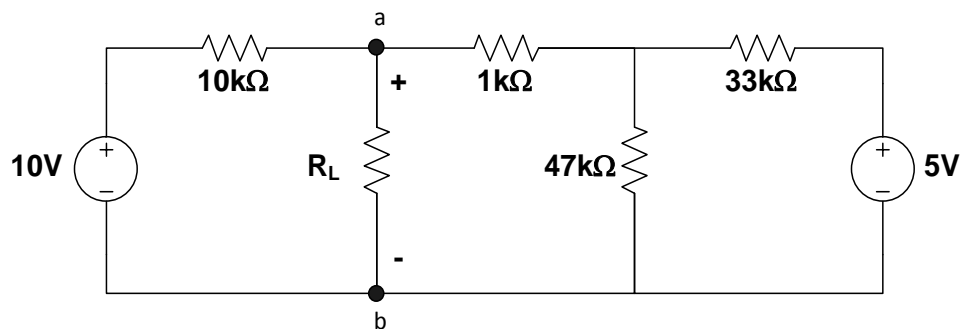

Figure 3: Circuit for Thevenin's and Norton's equivalent
1. Construct the circuit given in Fig. 3 on *Multisim Electronics Workbench*.
7. Build the circuit of Fig. 3 with hardwired components in the laboratory.
9. In the circuit of Fig. 3 connect a variable resistor ( $R_L$ ) between  $a$  and  $b$ .